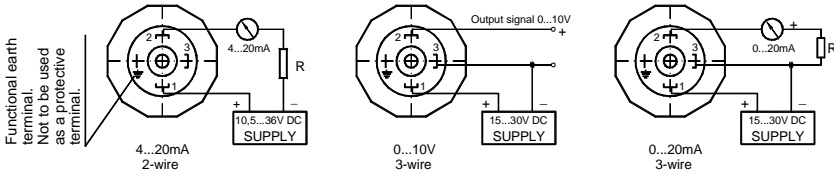

Fig. 1a. Wiring diagram for PCE-28, PRE-28 transmitters and PCE-28P probe
The methods of earthing the transmitters are shown in figures 1a, 2.
**12.5.1.** The **PCE-28P** probe should be connected as shown in figure 1a.